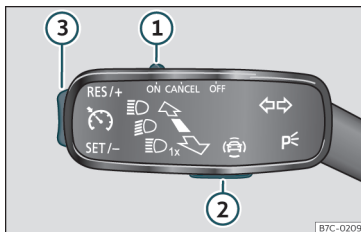

Fig. 208 On the turn signal lever: buttons to operate the speed limiter.
To change between the driving assistance systems, press button » » » Fig. 208 (2), then select with the right thumbwheel on the multifunction steering wheel in the instrument panel menu and press the thumbwheel to confirm your selection.
- Move control >>> **Fig. 208 ①** to position **ON** and press button **②**.
- While driving, press button >>> **Fig. 208 ③** in the area **SET/-**.
You can set the speed using button >>> **Fig. 208 ③**:
- Move control >>> **Fig. 208 ①** to position **OFF**.
If you want to temporarily deactivate the speed limiter, e.g. for overtaking, move the control >>> **Fig. 208 ①** to position **CANCEL** or press button **②**.
After overtaking, the speed limiter can be activated with the previously programmed speed by pressing button >>> **Fig. 208 ③** in the area **RES/+**.